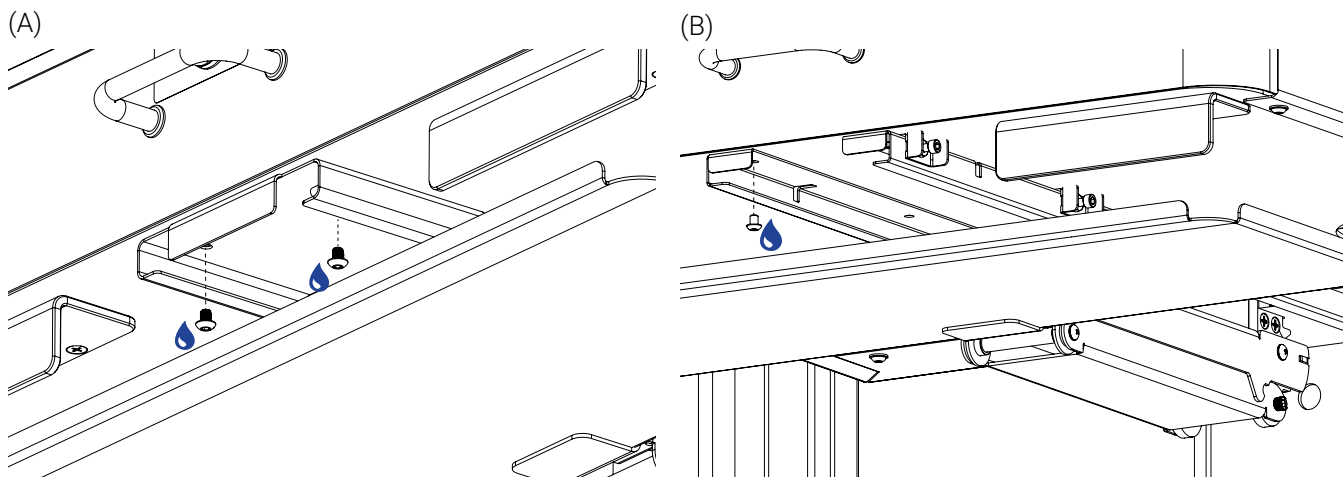

Figure 11: Installing the last screw(s)
- For an Endoscopy Cart with a 1-part sliding mechanism, tighten the last two (2) screws coated with medium strength thread lock adhesive using a 1/8 hex key (Figure 11 A).
- For an Endoscopy Cart with a 2-part sliding mechanism, tighten the last screw coated with medium strength thread lock adhesive using a 1/8 hex key (Figure 11 B).